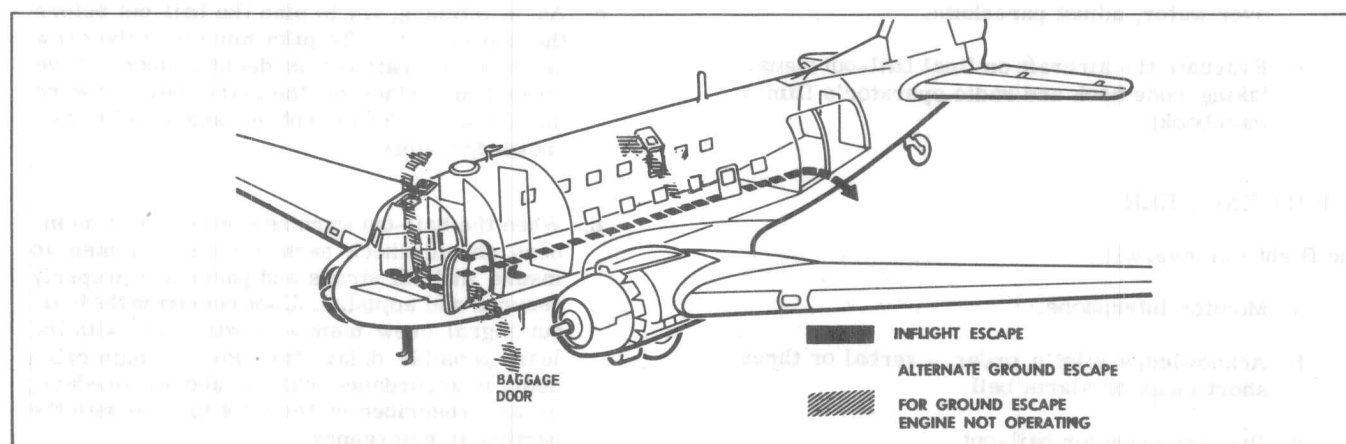

Figure 3-5. Emergency Escape Routes
- b. Crew members will leave through assigned escape exit and, upon emerging, inflate life vests (figure 3-5).